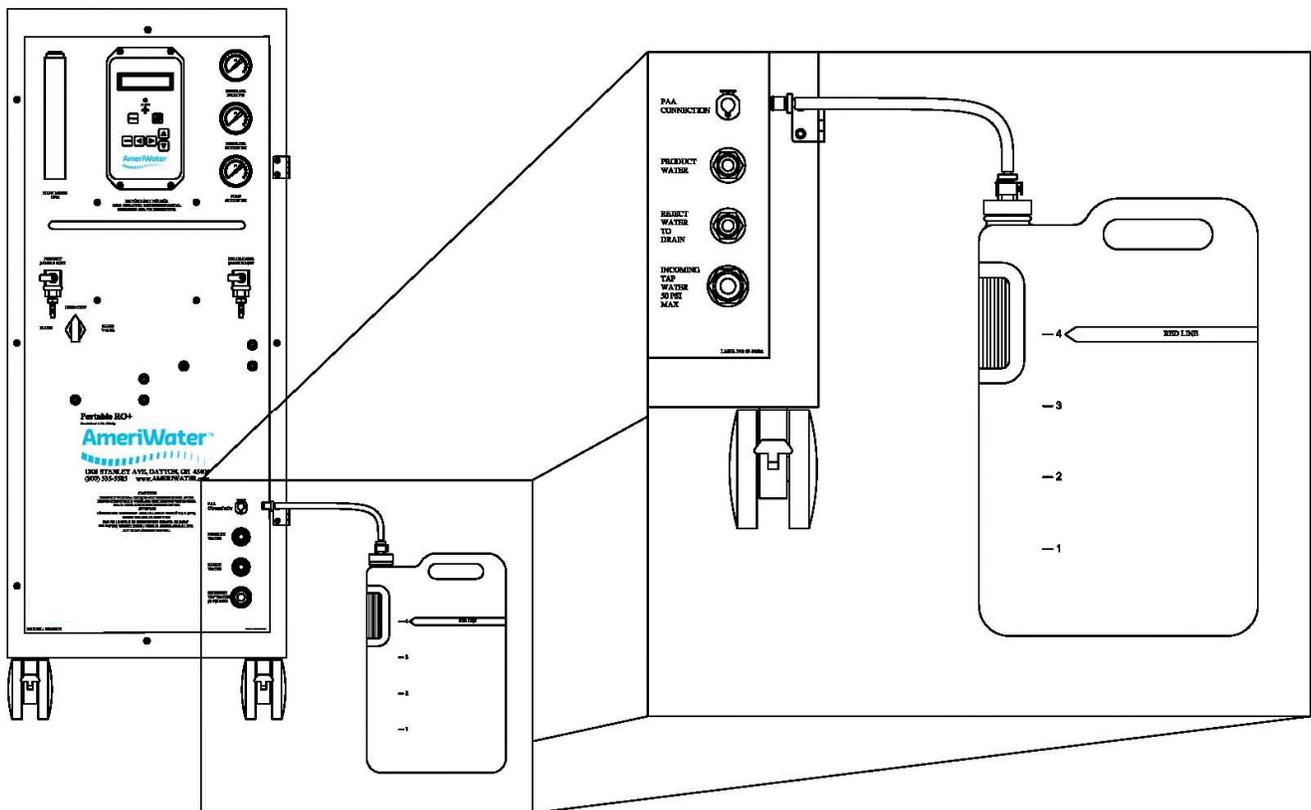

FIGURE 5.1
10. Connect the PAA tubing male fitting into the PAA Container's quick disconnect fitting that is mounted in the cap assembly (Figure 5.1).
11. Turn the FLUSH VALVE (TEMPORARY FLUSH VALVE) to the FLUSH position (Figure 5.1).